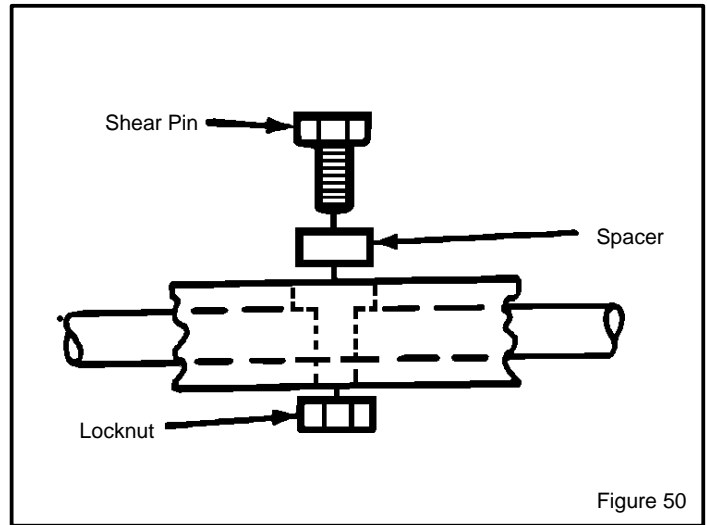

Figure 50
2. Align the hole in the auger with the hole in the auger shaft. Install new shear bolt, spacer and locknut found in the toolbox located on the belt cover (See Figure 50).